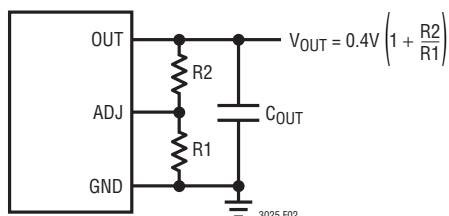

Figure 2. Programming the LTC3025
**ADJ (Pin 5):** Adjust Input. This is the input to the error amplifier. The ADJ pin reference voltage is 0.4V referenced to ground. The output voltage range is 0.4V to 3.6V and is typically set by connecting ADJ to a resistor divider from OUT to GND. See Figure 2.
The output voltage is set by the ratio of two external resistors as shown in Figure 2. The device servos the output to maintain the ADJ pin voltage at 0.4V (referenced to ground). Thus the current in R1 is equal to  $0.4\text{V}/R1$ . For good transient response, stability, and accuracy, the current in R1 should be at least 8µA, thus the value of R1 should be no greater than 50k. The current in R2 is the current in R1 plus the ADJ pin bias current. Since the ADJ pin bias current is typically <10nA, it can be ignored in the output voltage calculation. The output voltage can be calculated
using the formula in Figure 2. Note that in shutdown the output is turned off and the divider current will be zero once  $C_{OUT}$  is discharged.